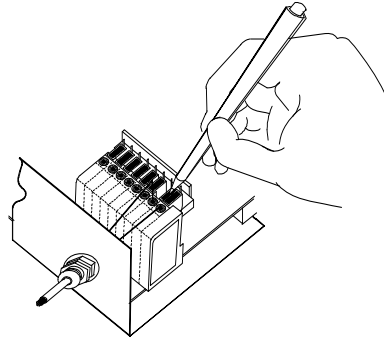

Figure 4 - System Cable Connections
- Using a device such as a screwdriver, push down on the lever directly next to the clamp (see Figure 4).